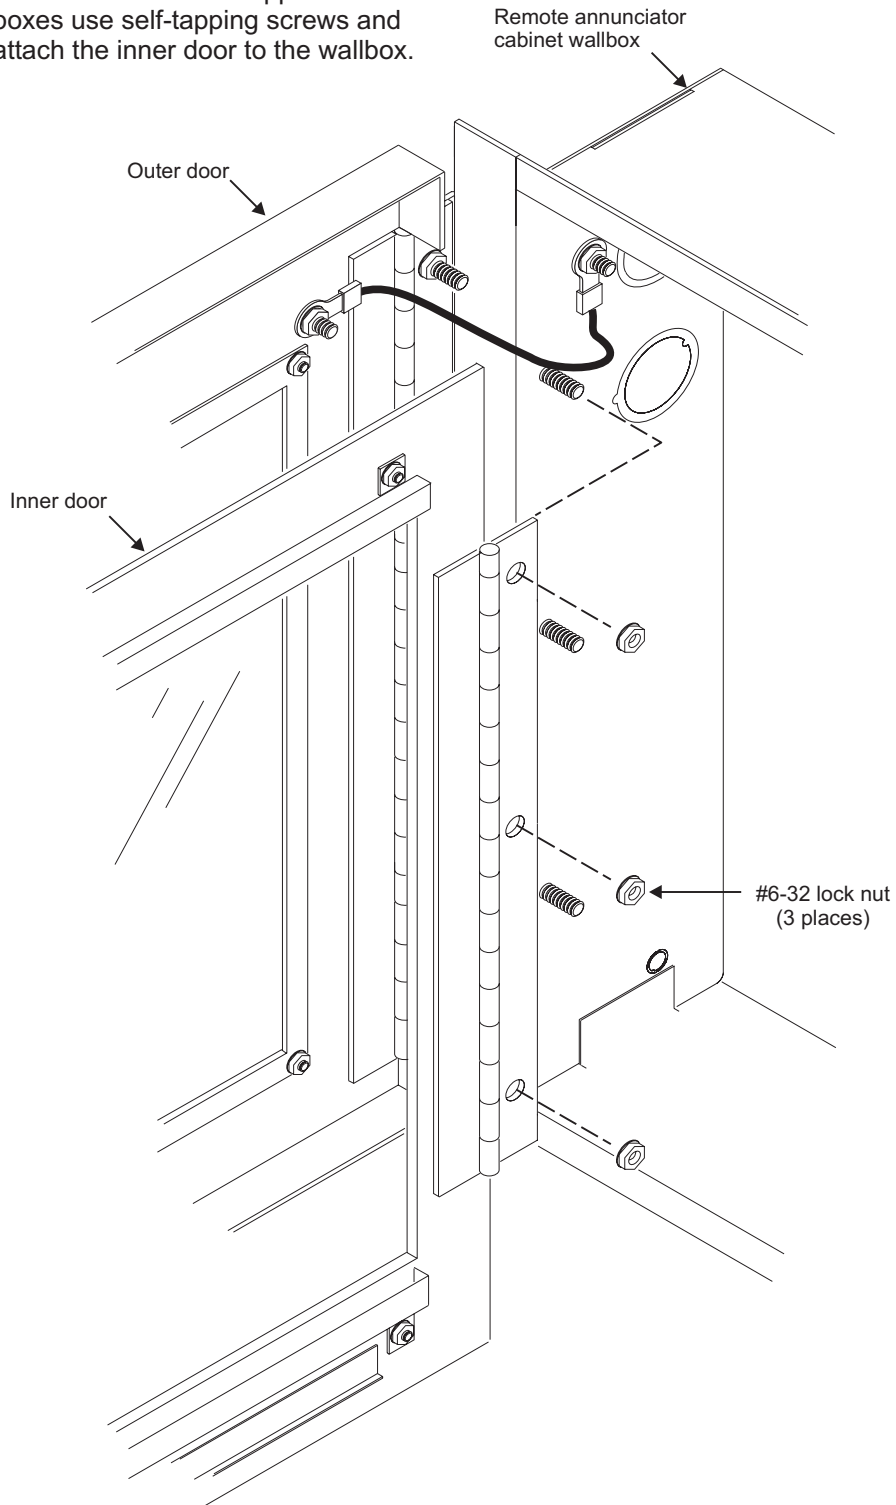

Figure-2: Typical inner door installation (semi-flush mount wallbox shown)
3. On semi-flush mounted wallboxes attach the inner door to the inner door mounting studs. See Figure-2. On surface mounted wallboxes screw the inner door to the mounting holes.
Note: Figure-2 shows how the inner door attaches to a wallbox designed for semi-flush mount applications. Surface mount wallboxes use self-tapping screws and pre-drilled holes to attach the inner door to the wallbox.